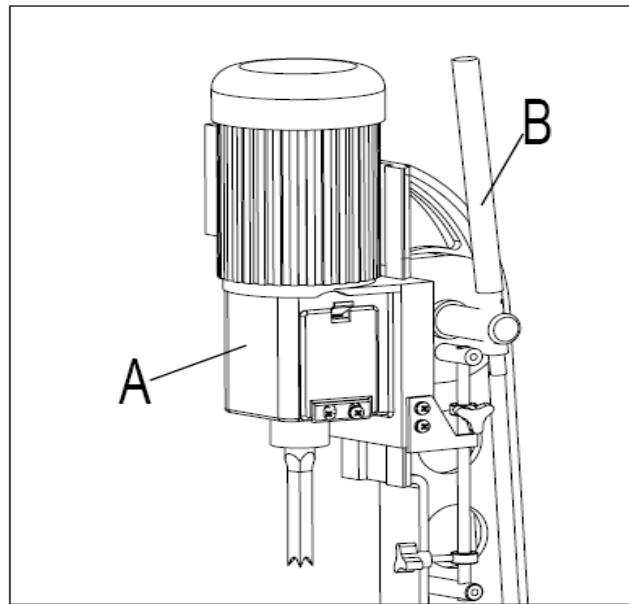

Fig 4
The head (A) Fig. 4, is raised and lowered by means of the lever (B).